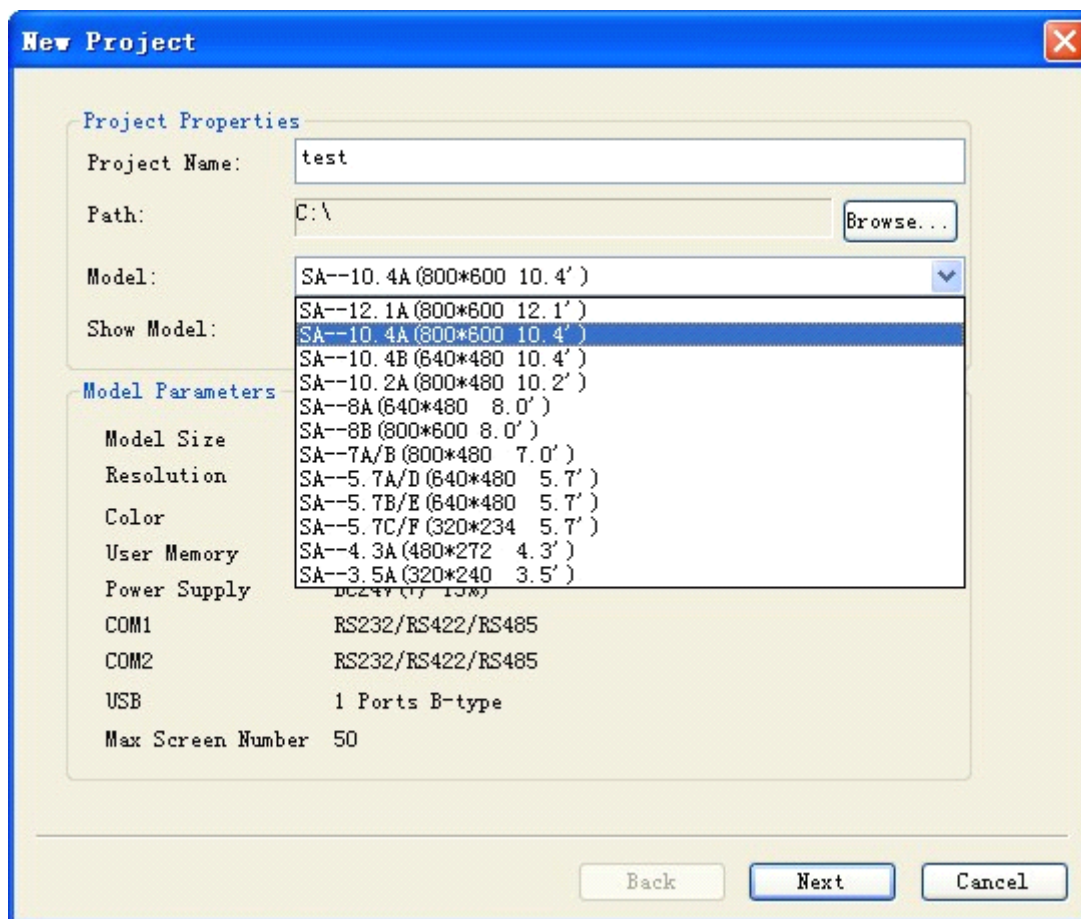

Figure 6-3 Dialing box of new project
- ✓ Select the icon  for new item or "File" – “New Project” in menu bar to pop up the dialog box as shown in figure 6-3.